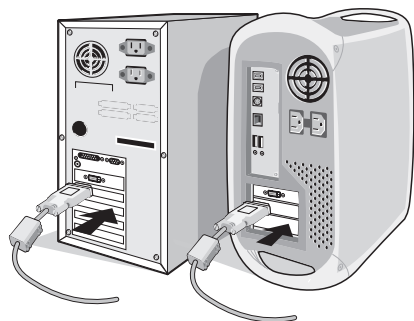

Figure A.1
2. **For a PC or MAC with DVI digital output:** Connect the DVI signal cable (not included) to the connector of the display card in your system (**Figure A.1**). Tighten all screws.